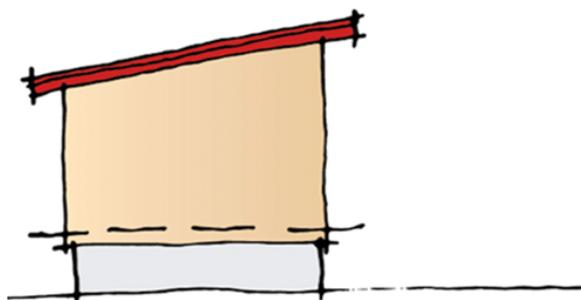

Figure 1. Height restrictions for exempt sleepouts.
- must have a floor level no more than 1 metre above the ground, and the highest point of the structure can be no more than 3.5 metres above the floor level [Figure 1].